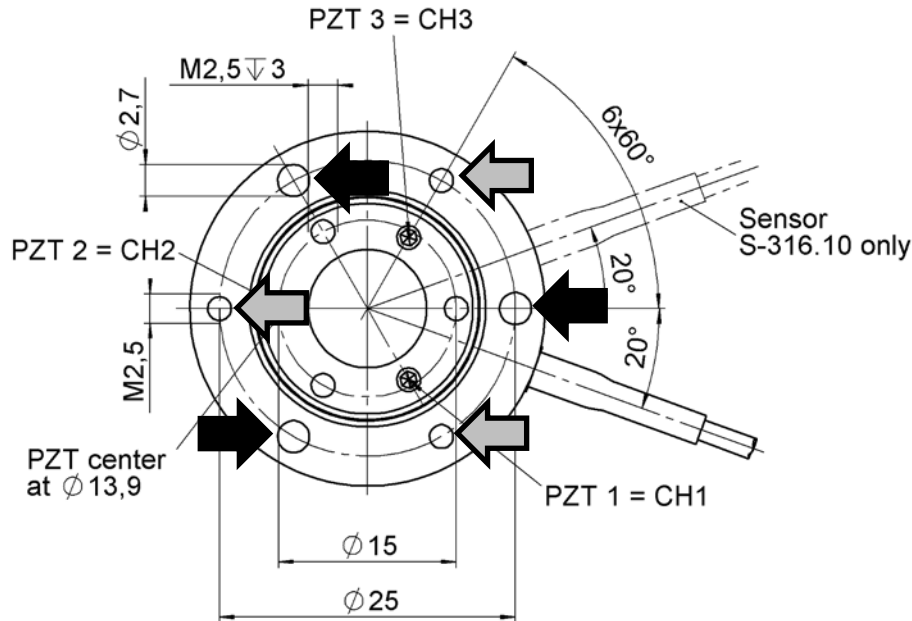

Figure 11: Arrows indicate where to mount the S-31x
- Mount the S-31x using the mounting holes labeled by arrows, see Figure 11.